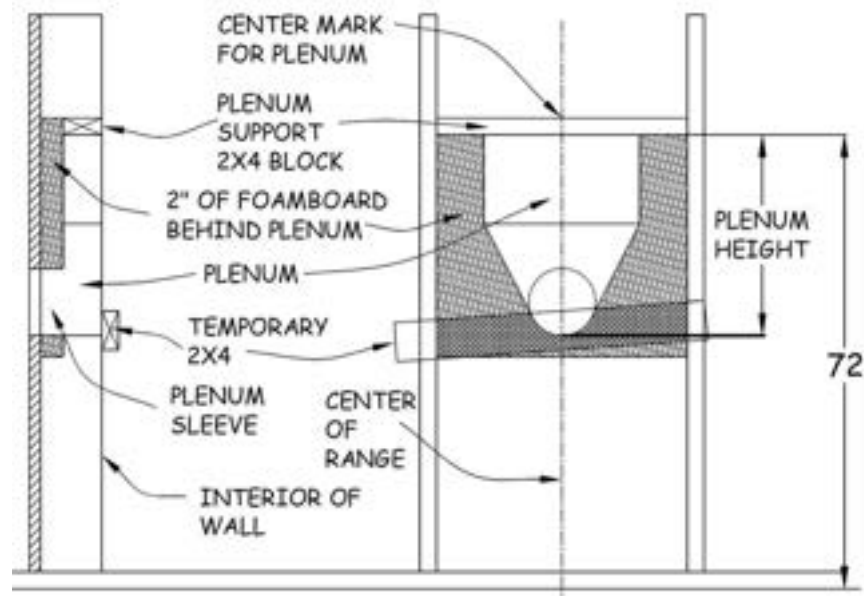

Figure 10-1. Range Hood Plenum Location.
3. Note the marking on the floor indicating where the center of the stove will be. Measure from the closest end wall to that center mark or, with a 6' level, plumb up from the floor mark. Mark that measurement on the 2x4 support block installed in Step 2 above (see Figure 10-1).
1. Measure the plenum height as shown in Figure 10-1.
2. Cut 2" thickness of foamboard slightly wider than the width of the stud bay (for a snug fit) and 3½" longer than the plenum height measured in Step 1. Install this foamboard between the 2x4 support block and the wall sheathing, flush with the top of the 2x4 support block (see Figure 10-1). Use tape to secure the foamboard in place if necessary.
5. Using 16d duplex nails, temporarily brace the bottom end of the plenum so it remains flush with the interior wall by nailing a piece of 2x4 across the interior edge of the two studs on either side of the plenum (see Figure 10-1).